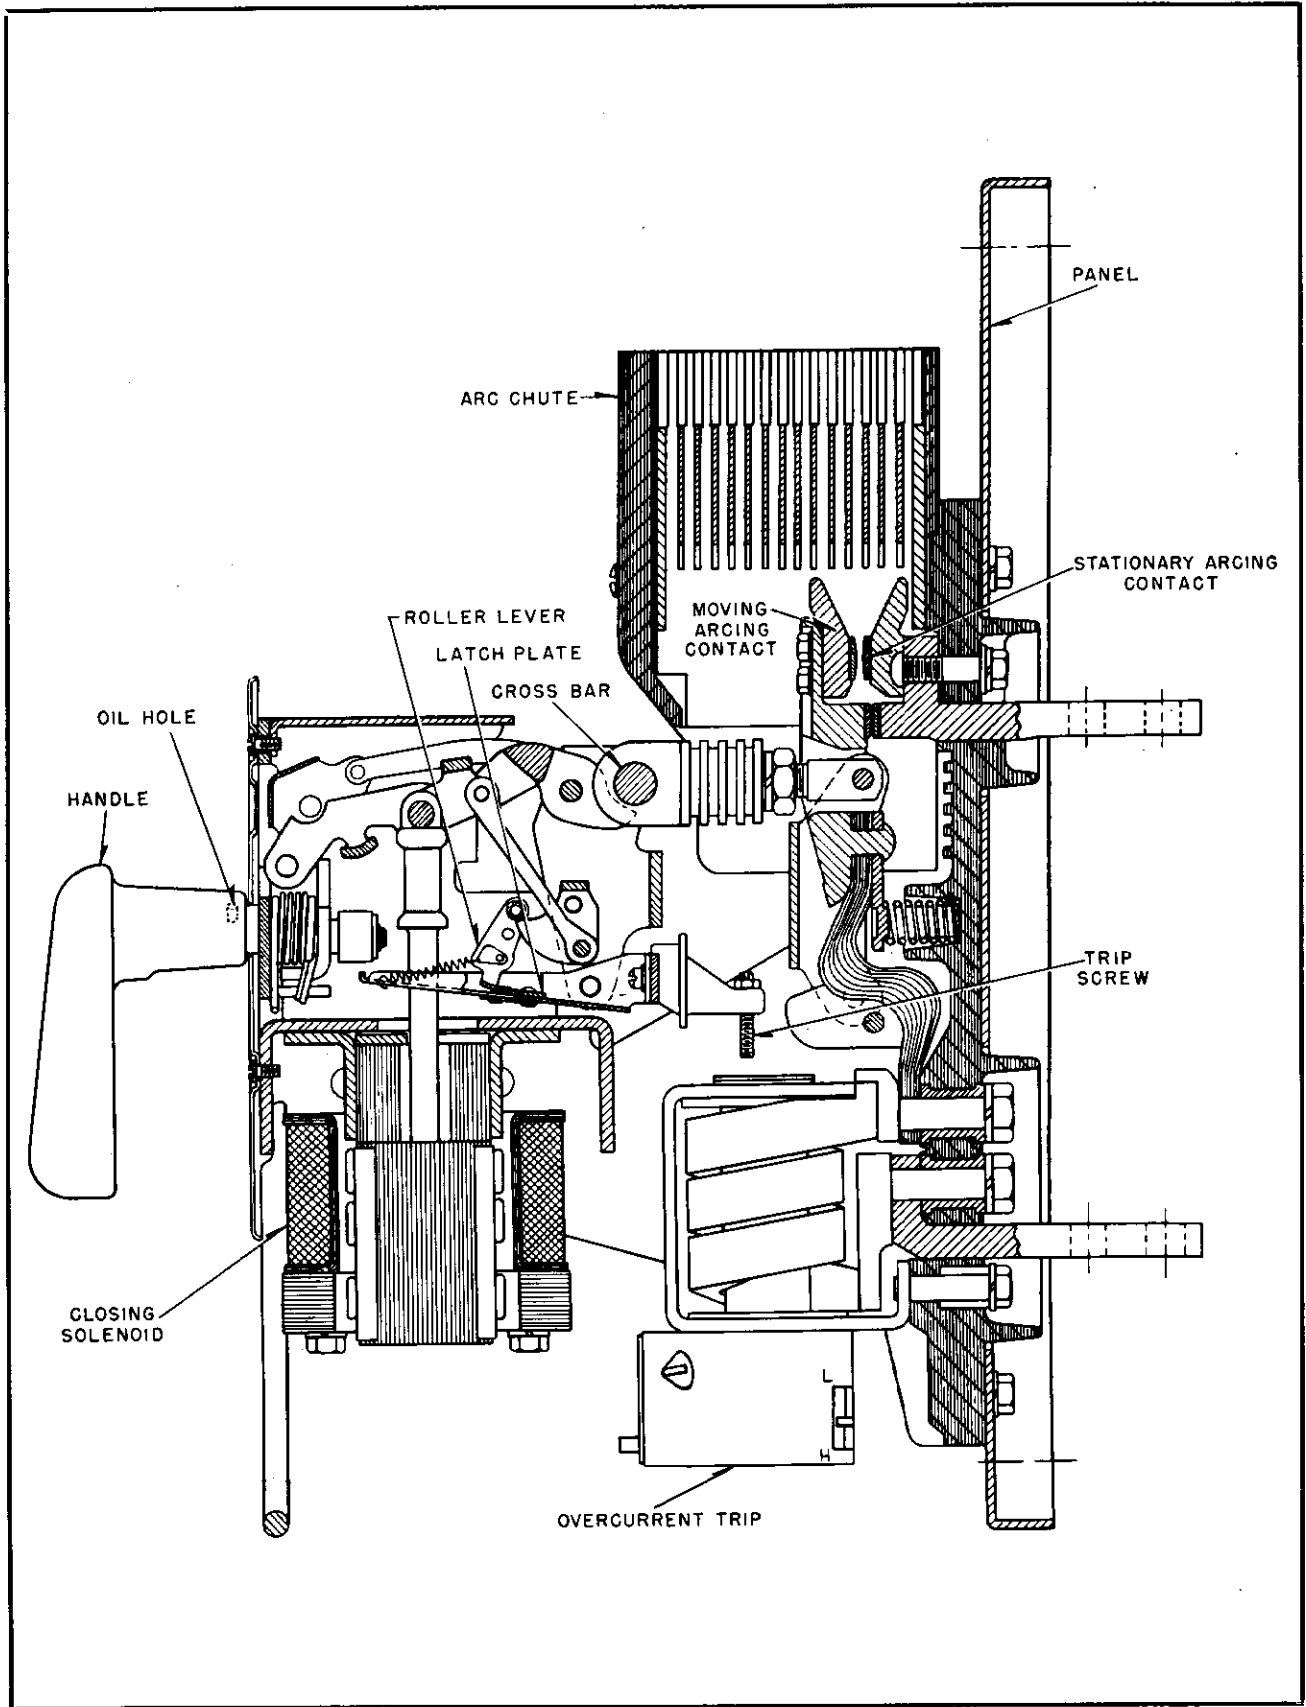

FIG. 6. Cross-Sectional View of Type DB-25 Circuit Breaker
Each pole unit is mounted on a separate molded base through which the breaker studs pass. (See Fig. 6). The molded bases are attached to the steel mounting panel and provide insulation for the breaker studs.
**Contacts.** (See Fig. 6). The DB-25 arcing contacts should touch first on closing, open last on opening, and have approximately a  $\frac{3}{32}$ -inch gap when the breaker is completely closed. This gap is adjusted by removing the cross bar and screwing the insulating link in or out on the stud. Be sure to tighten the lock nuts after each adjustment.
The operating mechanism (see Fig. 6) is non-adjustable and consists of a series of stainless steel links designed to secure low closing and tripping forces. To check for friction, raise the trip bar and slowly rotate the manual operating handle in close and trip direction. The linkage should follow the handle without sticking.
The closing solenoid (see Fig. 6) is non-adjustable. It is designed for intermittent duty only. Check for loose bolts.